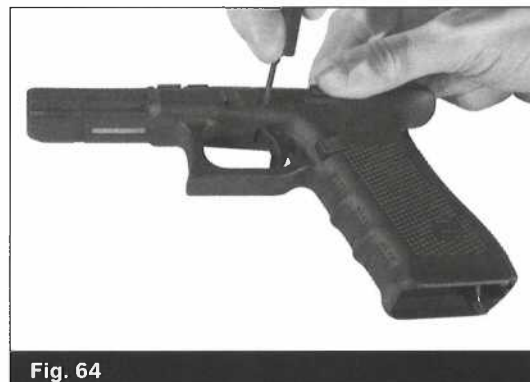

Fig. 64
- To facilitate trigger pin removal, move the slide stop lever forwards and backwards while applying pressure on the trigger pin. In order to get the trigger pin out, you must move the slide stop lever out of the trigger pin groove. When the slide stop lever is moved forward and backwards, it can be "unhooked" from the trigger pin groove and the pin may be removed from the right side of the frame. (Fig. 64)